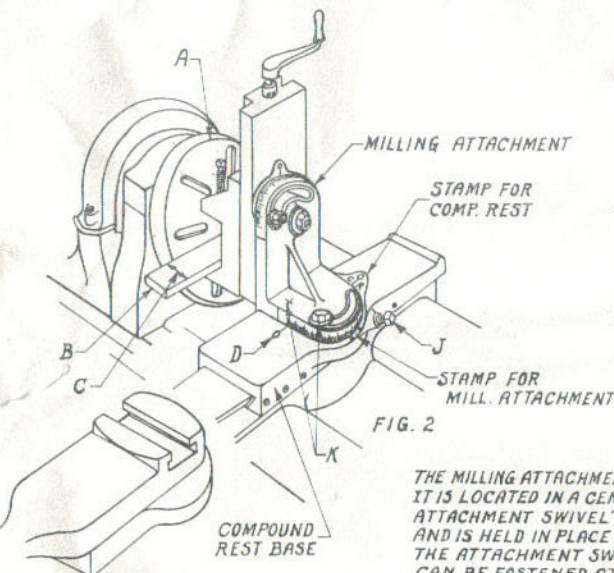

FIG. 1
- 1ST. REMOVE THE COMPOUND REST TOP WITH SWIVEL FROM THE COMPOUND REST BASE AS SHOWN IN FIG. 1.